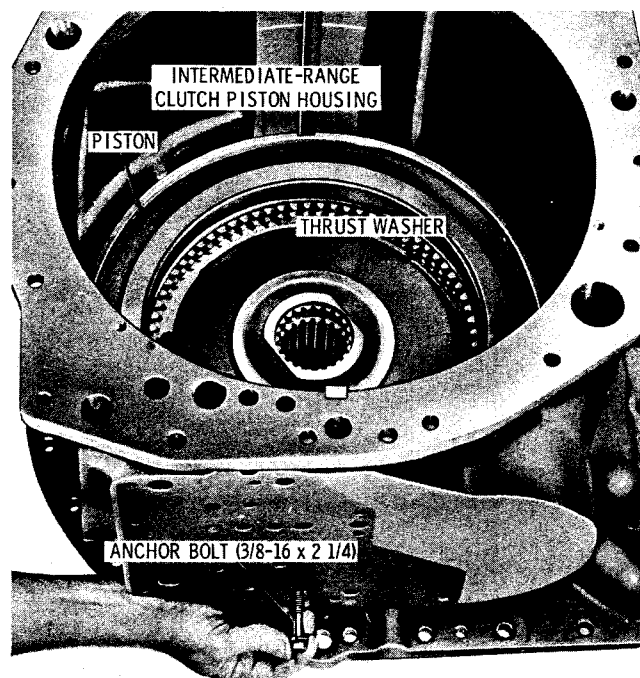

Fig. 5-36. Removing intermediate-range clutch piston housing anchor bolt
(14) Remove the anchor bolt and lock washer which retain the intermediate-range clutch piston housing (fig. 5-36). Remove the piston housing. Remove the piston from the housing. Refer to paragraph 6-15 for piston rebuild procedures.
(15) Remove thrust washer (fig. 5-36).